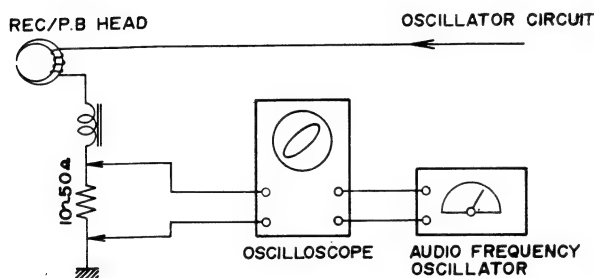

Fig. 1
1. RECORDING BIAS FREQUENCY ADJUSTMENT (Fig. 1)